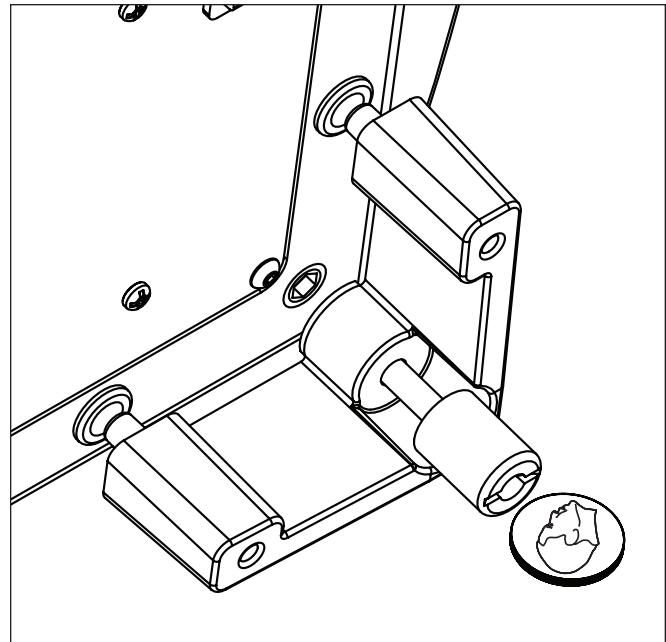

Figure 11. To change woofer orientation, use a coin to unscrew the attached feet, change location, and reinstall.
- 2 Carefully lay the subwoofer on its side. Using a coin, unscrew the attached feet (see figure 11).
- 4 Using a coin, reinstall the feet (see figure 11).